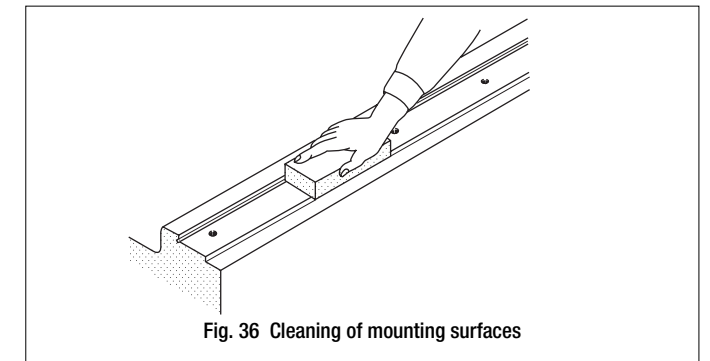

Fig. 36 Cleaning of mounting surfaces
- Remove burrs and blemishes from reference mounting surfaces and mounting surfaces of the machine using an oil-stone, etc., and then wipe the surfaces with clean cloth. (See Fig. 36.)
Generally, two sets of Linear Way Modules are used in parallel as shown in Fig. 36. They are usually mounted according to the following procedure. (See Fig. 40.)